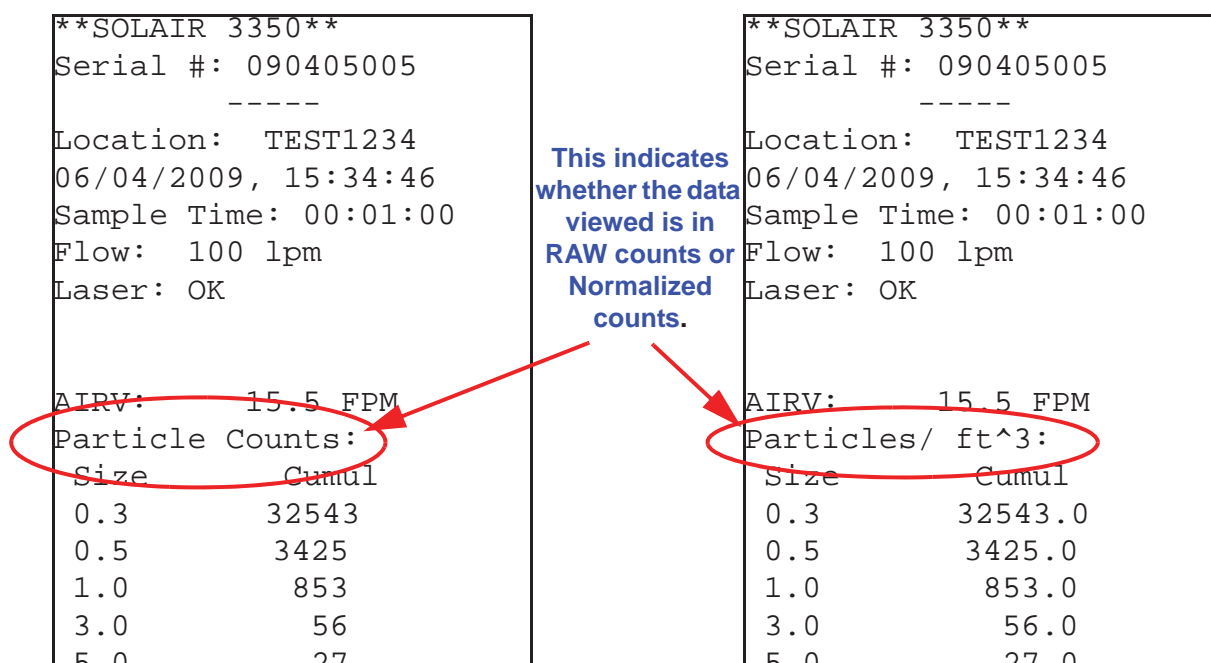

Figure 6-75 Sample Report Formats
- Raw (“Particle Counts”) or Normalized (“Particles/ft³” or “Particles/m³”). See Figure 6-75.